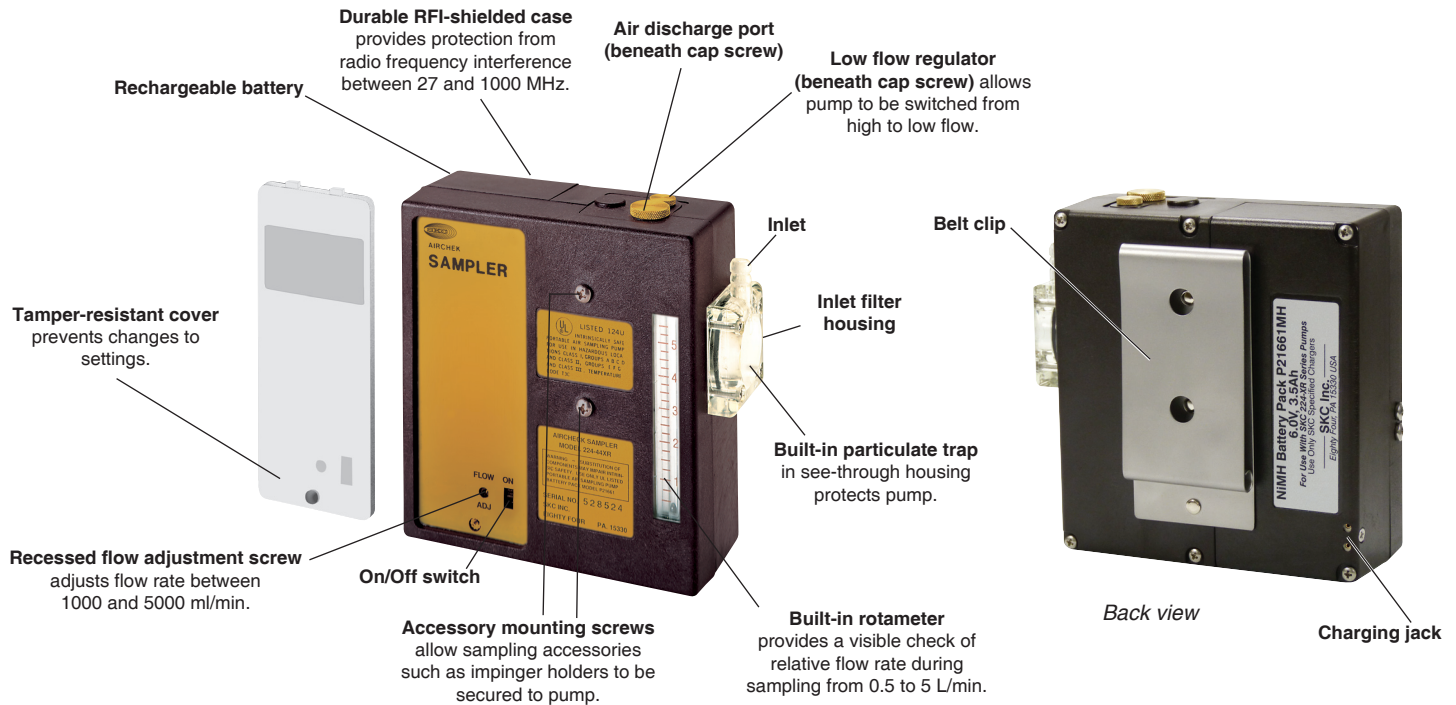

Figure 1. Front and back views of 44XR Universal Sample Pump
The 44XR Universal Sample Pump (Figure 1) is a constant flow (from 5 to 5000 ml/min) air sampler suitable for a broad range of applications. It is ideal for industrial hygiene studies as well as environmental testing.
3. Insert the charging plug end of the cable into the jack on the back of the pump's battery pack (*Figure 1*).
Turn Pump Power On/Off (Figure 1)
1. To ensure the pump is set for high flow, remove the cap screw (*Figure 1*) covering the regulator valve and turn the exposed screw **clockwise** until it stops. Do not overtighten. *See right.*
4. Set the flow rate using the flow adjustment screw (*Figure 1*) until the calibrator indicates the method-specified flow rate. Take a minimum of three readings and record the average flow rate, as per OSHA/NIOSH instructions.
- b. **When using impingers, an in-line trap (SKC Cat. No. 225-22 or 225-22-01) is required to prevent fumes from accidentally being drawn into the sampler.** Place the in-line trap between the pump and the impinger. Mount the impinger and trap to the face of the sampler using the accessory mounting screws (*Figure 1*) or place them in a holster at the worker's waist.
3. Start sampling by turning on the pump using the on/off switch (*Figure 1*). Record the start time.